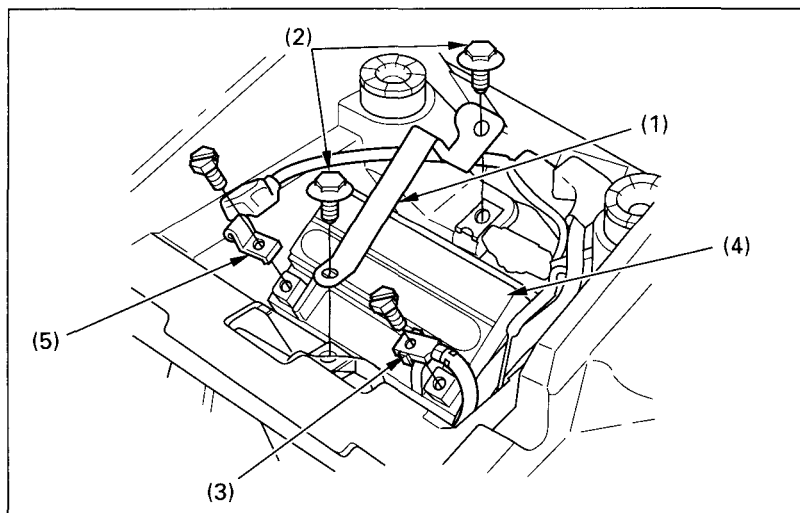

Fig. 4-17
3. Remove the battery holder (1), (Fig. 4-17) by removing the mount bolts (2).
4. Disconnect the negative (-) terminal lead (3) from the battery (4) first, then disconnect the positive (+) terminal lead (5).